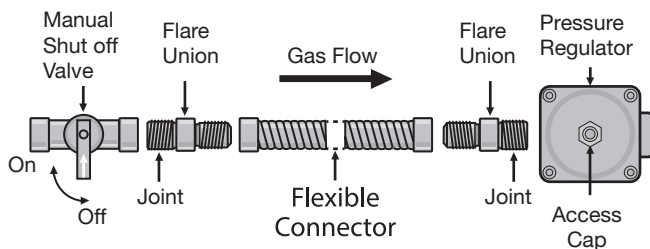

Figure 9
- 5** Attach one adapter/flare union to the gas pressure regulator and the other adapter/flare union to the gas shut-off valve. Tighten both adapters. (See Figure 9)